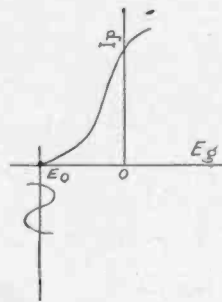

Fig. 2b
- Fig. 2b. Characteristic curve of three-element vacuum tube showing plate current against the grid voltage.
The three-element vacuum tube voltmeter works on the principle of reducing the plate current to zero. In Fig. 2b is shown a characteristic curve of a three-element tube, plate current against grid voltage. By increasing the negative bias to a suitable value the plate current can be reduced to zero. In Fig. 2b this voltage is OE. When operating the tube as a voltmeter, first adjust the bias so